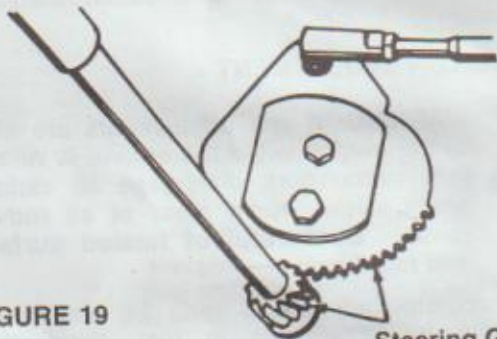

FIGURE 19
- * Lubricate teeth of steering gears with automotive multi-purpose grease after every 25 hours of operation or once a season. Refer to figure 19.